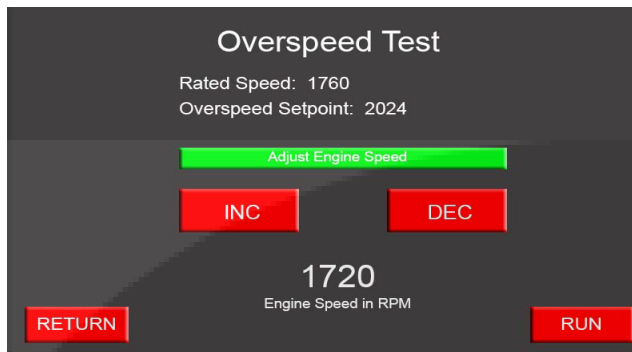

Figure 4-2 Overspeed Test - Adjust Engine Speed
3. If necessary, press Adjust Engine Speed (shown in Figure 4-2) and then use the INC and DEC buttons to increase or decrease the engine speed by increments of ten RPM.